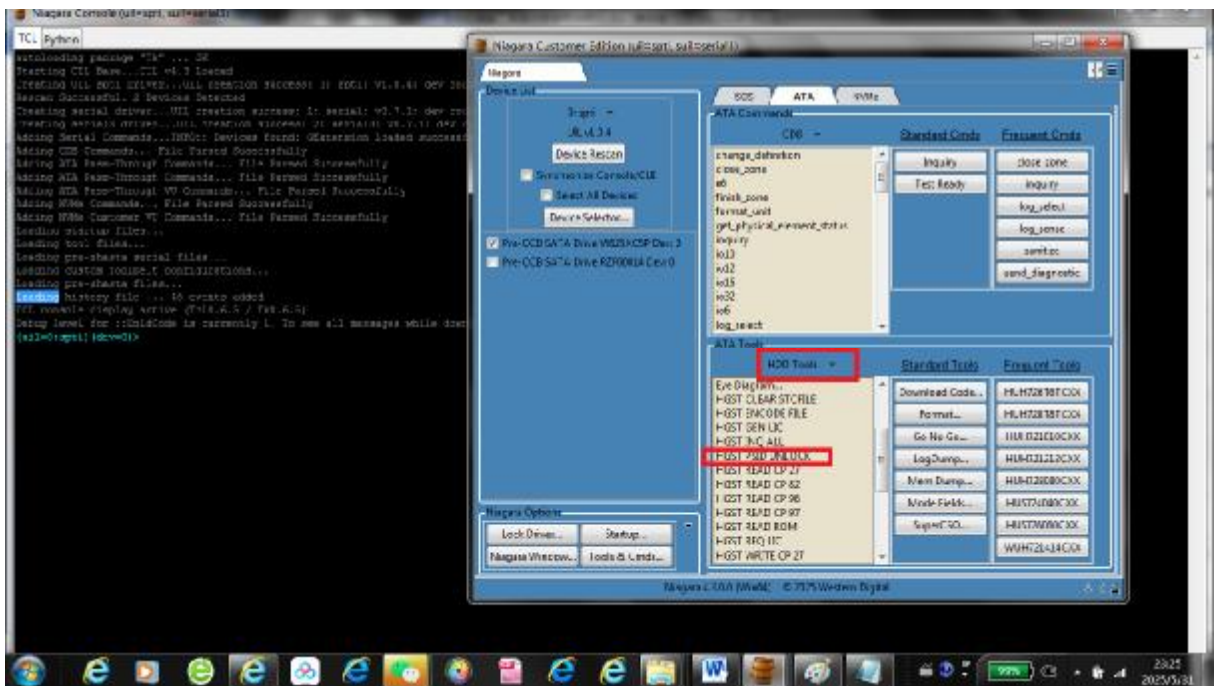

Figure 18: PSID Unlock
3. Click ****HDD TOOLS > HGST PSID UNLOCK**** to unlock (Figure 18).